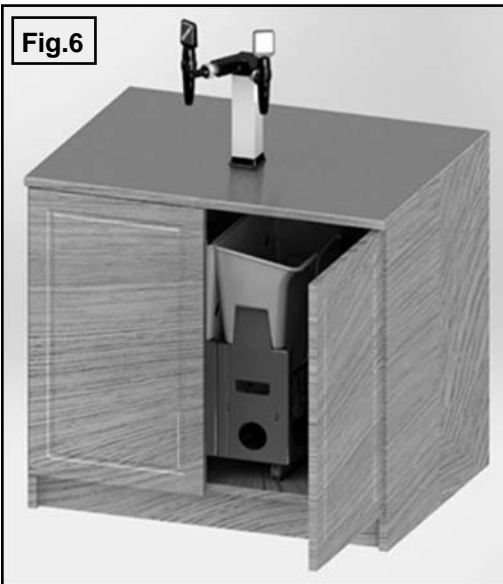

Fig.6
1. Determine the Tower mounting location(s) on the countertop, as close to the Condiment Delivery System's rack as possible (Fig.6).
3. Immerse the Connector with Adapter into the pail or bucket of Cleaning Solution (**Fig. 5**). Pull the and hold the faucet handle (**Fig. 6**) until 1-gallon / 4 liters of Cleaning Solution has been dispensed.
4. Lift the Connector with Adapter out of the Cleaning Solution. Pull and hold the faucet's handle (**Fig. 6**) until all of the Cleaning Solution has been pumped out of the system. Proceed to step SECOND: RINSE INSTRUCTIONS.
1. Immerse the Connector and Adapter into the pail or bucket of Cleaning Solution (**Fig. 5**). Pull and hold the faucet's handle (**Fig. 6**) until 1-gallon / 4 liters of Cleaning Solution has been dispensed.
2. Lift the Connector with Adapter out of the Cleaning Solution. Pull and hold the faucet's handle (**Fig. 6**) until all Cleaning Solution has been pumped out of the system. Proceed to step THIRD: SANITIZE INSTRUCTIONS.
1. Place the Connector with Adapter back into the pail or bucket of Cleaning Solution and then pull and hold the faucet handle (**Fig. 6**) until 1/2-gallon / 1.5 liters of Cleaning Solution has been dispensed.
2. Lift the Connector with Adapter out of the Cleaning Solution. Pull and hold the faucet handle (**Fig. 6**) until all Cleaning Solution has been pumped out of the dispensing system.
3. Remove the Sanitizer Adapter from the Connector. Re-connect the Connector to the 38mm adapter fitting (**Fig. 2**) installed on the condiment product bag's outlet fitting. Pull and hold the faucet handle (**Fig. 6**) until pure condiment is dispensed.